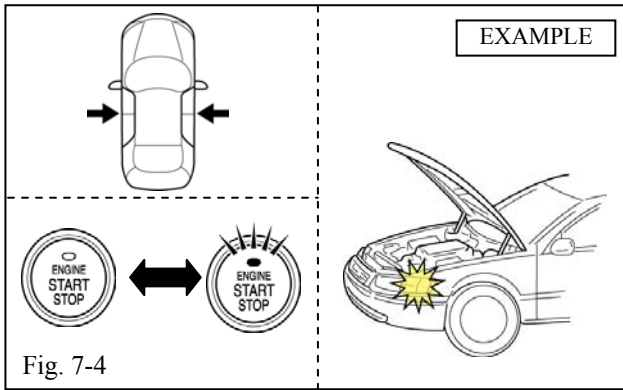

Fig. 7-4
- (e) Ensure all Doors are closed and the Smart Key is in your possession. (Fig. 7-4)
- (f) Cycle the Vehicle’s “Engine Start Stop” Button from “OFF” to “ON” 5 times. (Fig. 7-4)
(1) Place the Shift Lever in the "P" Position.
- (g) Once the fifth cycle has been completed, the Hazard Lights Flash once. (Fig. 7-4)